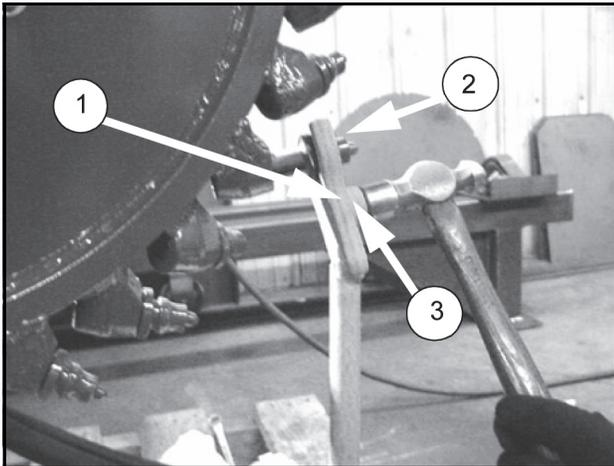

Figure 22.
3. Insert the pick tool (1) into the slot on the pick (2) as shown in Figure 22.
4. Drive the pick into holder by striking tool on circular protrusion (3).